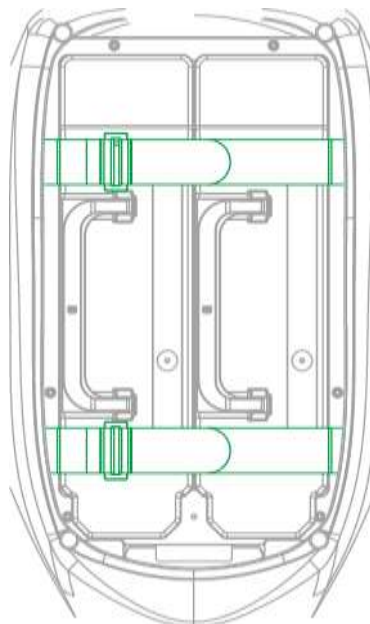

Figure 3-18
- Step 2 Put the battery into the aircraft horizontally, fasten the fixing band firmly, as shown in Figure 3-18.